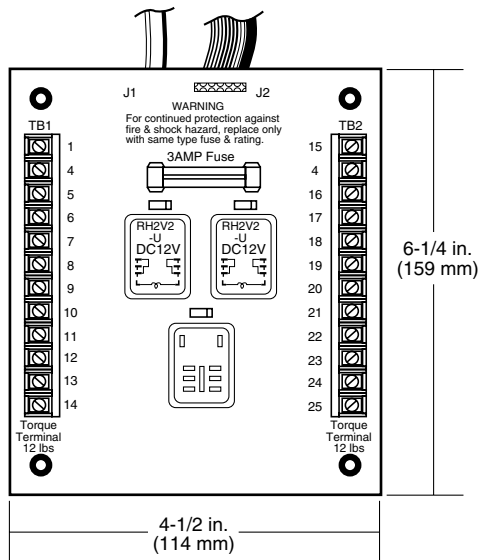

Figure 3-2.2
3-2.2 Relay Module. The Relay Module, figure 3-2.2, includes all of the control and shutdown relays that are required to make up the generator engine control. Relays are available for operation on either 12 or 24 volt battery systems. Two (2) relays are included for: